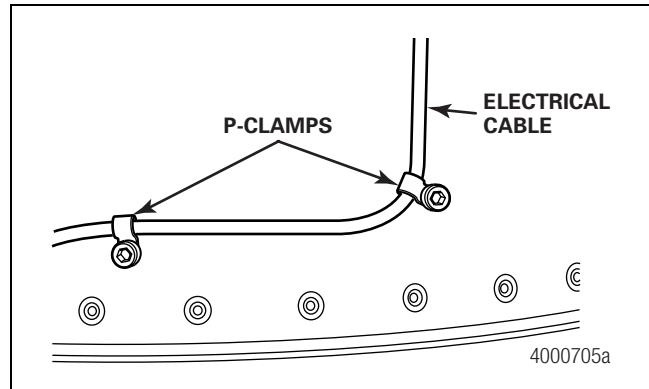

Figure 2.65
- Secure the electrical cable to the front of the trailer using the supplied P-clamps. Figure 2.65.